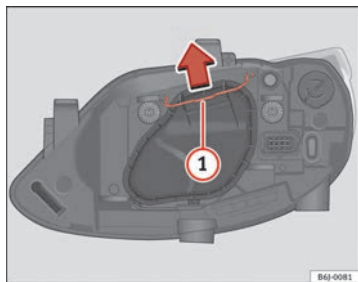

Fig. 144 Dipped beam/
- Move the loop ⇒ fig. 144 ① in the direction of the arrow and remove the cover.